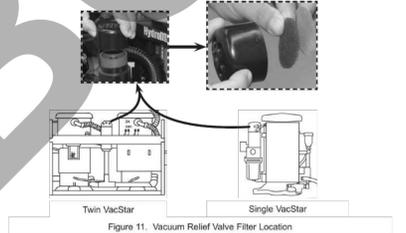

Figure 11. Vacuum Relief Valve Filter Location
- 6. Refer to Figure 11 and check the vacuum relief valve filter, clean if necessary.